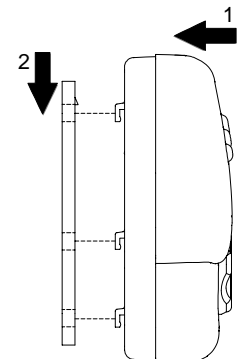

Fig. 5: How to snap the thermostat on its plate.
4. Mount the controller base on the wall plate by fitting the base teeth in the relevant holes on the wall plate, then apply a slight pressure towards the bottom until the plate fixing tooth snaps (Fig. 5).